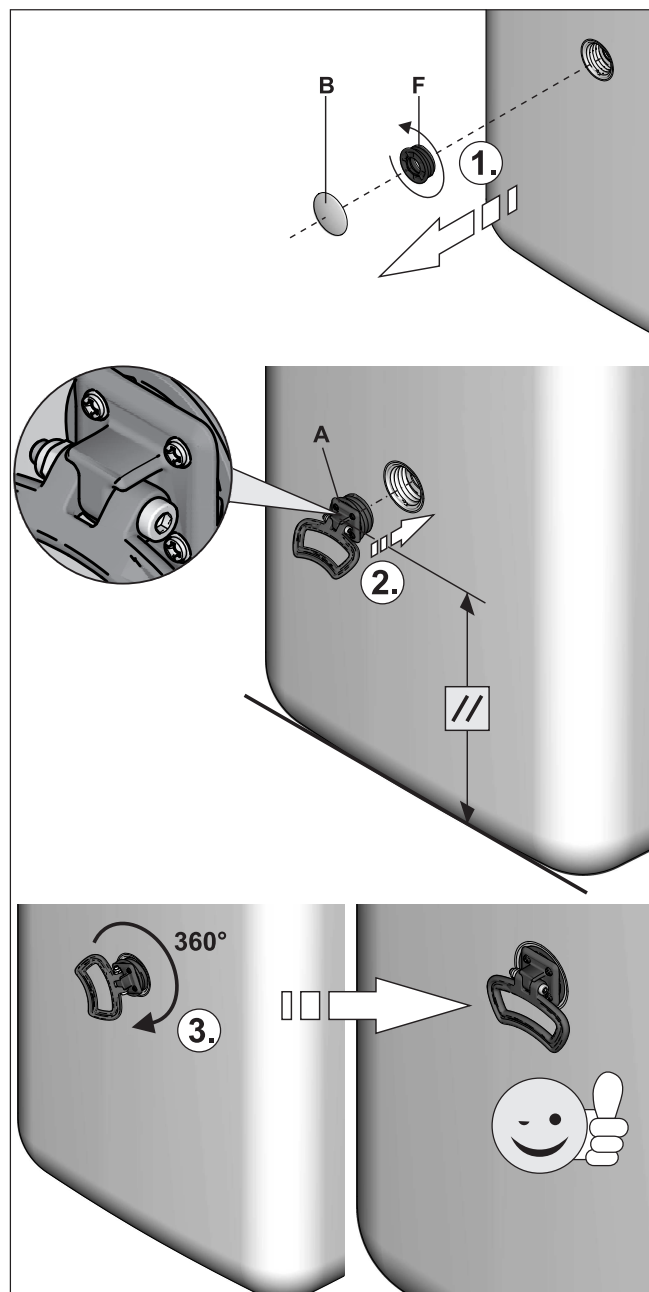

Fig. 4-6 Installing the handles
- 2 Pull off the cover screens from the storage tank (Fig. 4-6, item B) and unscrew the threaded fittings (Fig. 4-6, item F) from the openings at which the handles are to be fitted.
- 3 Screw the handles (Fig. 4-6, item A) into the now uncovered threaded holes.